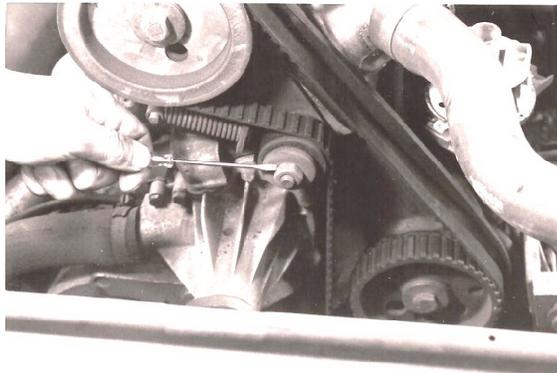

Figure 18. The 17-mm nut on the belt tensioner.
**11.** Loosen the 17-mm nut holding the belt tensioner spring (**Figure 18**). Do not remove.